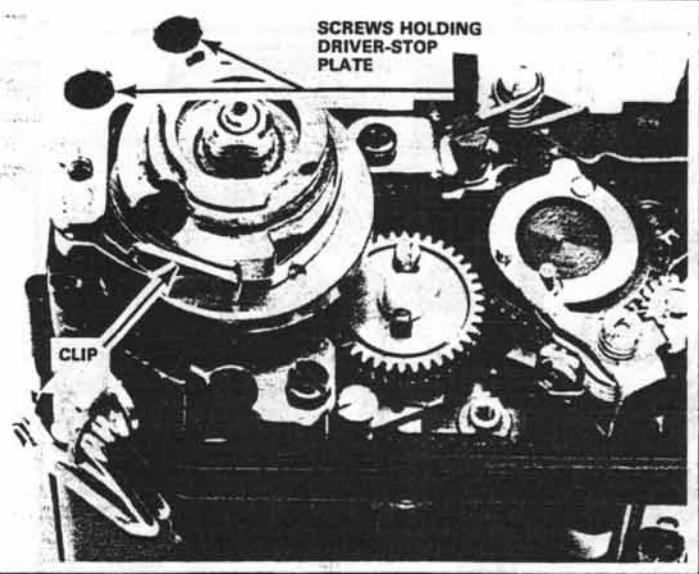
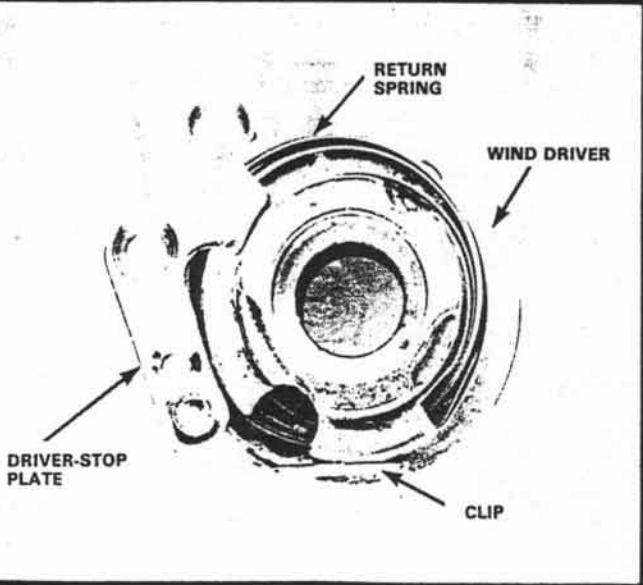
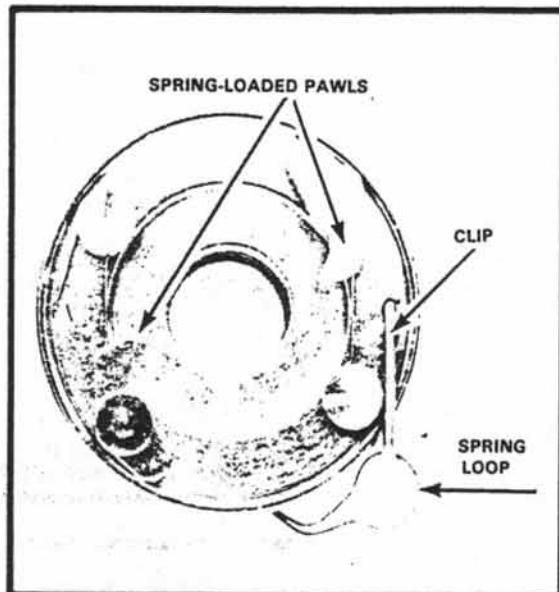
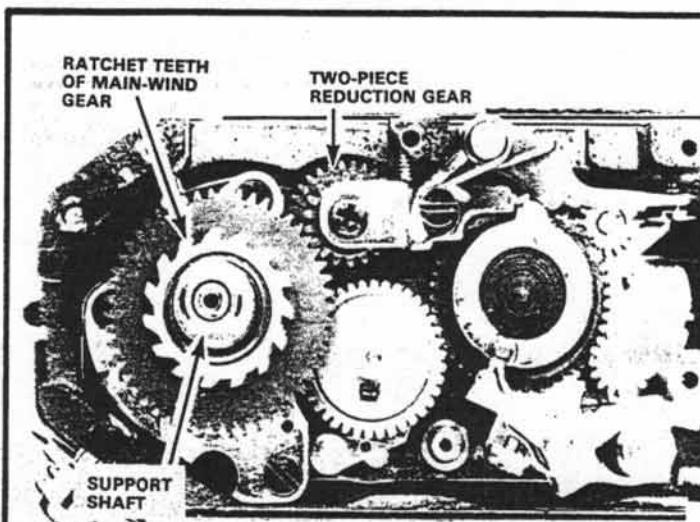

Figure 129
Figure 130
Figure 131 Bottom of wind driver
Figure 132
In Fig. 129, we've inserted the retaining clip. One end of the clip passes into the wind-driver hole; the other end passes into the loop at the end of the return spring. Your retaining clip doesn't have to be especially strong -- you can even use a chunk of a paper clip.
Now, remove the two screws, Fig. 129, and lift out the wind driver and the driver-stop plate as one assembly, Fig. 130. If you ever have to replace a wind driver, the return spring comes already tensioned, Fig. 131. Notice that Pentax installs the spring-retaining clip from the underside of the wind driver. Just hook the spring loop to the driver-stop-plate lug. Then, remove the spring-retaining clip to replace the assembly.
Also notice the two spring-loaded pawls on the underside of the wind driver, Fig. 131. These pawls engage the ratchet teeth of the main-wind gear, Fig. 132. As the wind driver rotates in a counterclockwise direction, the pawls turn the main-wind gear. But as the wind driver returns to the ready position, the pawls ride freely over the ratchet teeth.
Notice that the main-wind gear engages the upper teeth of the two-piece **reduction gear**, Fig. 132. The lower teeth of the reduction gear engage the **lower transport gear**. Turning the main-wind gear then rotates the two-piece reduction gear. And the two-piece reduction gear turns the transport ("spill") gears to wind on the curtains.
**REASSEMBLY:** Make sure you thoroughly clean the bearing surfaces of the support shaft, Fig. 132. Also clean the main-wind gear and the wind driver. Dirt on the bearing surfaces -- or a lack of lubrication -- results in a rough wind stroke.